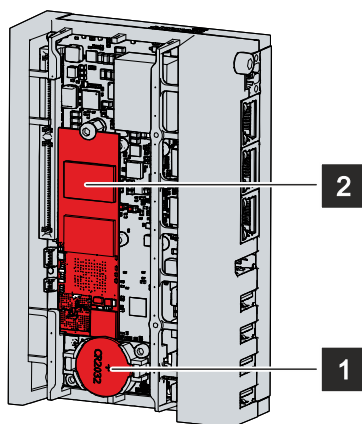

Fig. 24: Battery and storage media
- ⇒ The battery is now in an oblique position (see fig. 24).
5. Push the high side of the battery down into the battery holder (see fig. 24).